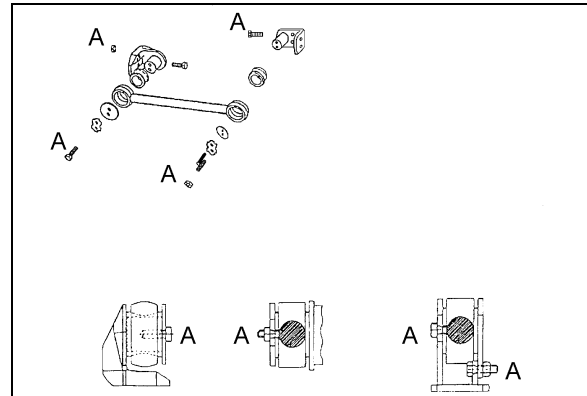

FIGURE 8: RADIUS ROD INSTALLATION
1. Lightly spray the radius rod support with water. Place the radius rod end over the radius rod support (Fig. 8).